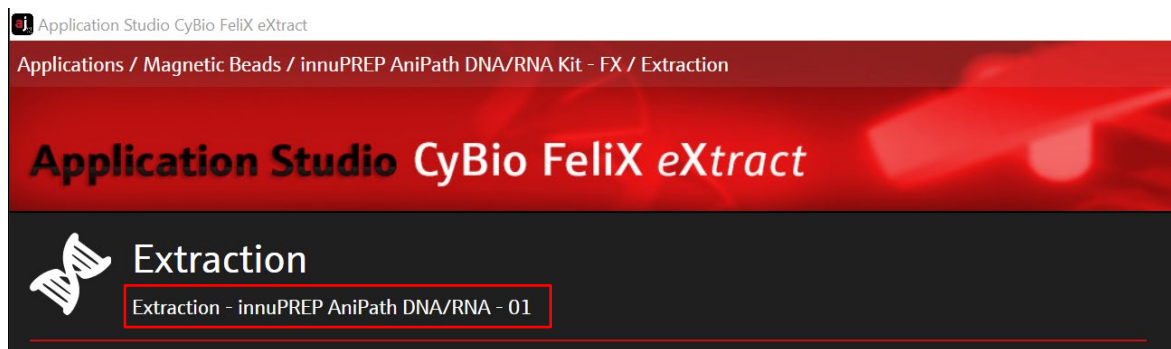

Figure 14: Version number of the extraction protocol.
8. Check the correct version number of the protocol: "Extraction - innuPREP AniPath DNA/RNA – 01" (→ see Figure 14).